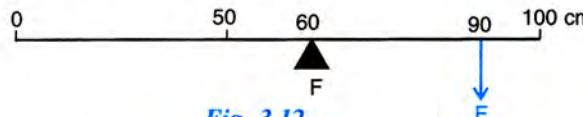

Fig. 3.12
- 22. Fig. 3.12, shows a uniform metre rule of weight W supported on a fulcrum at the 60 cm mark by applying the effort E at the 90 cm mark.